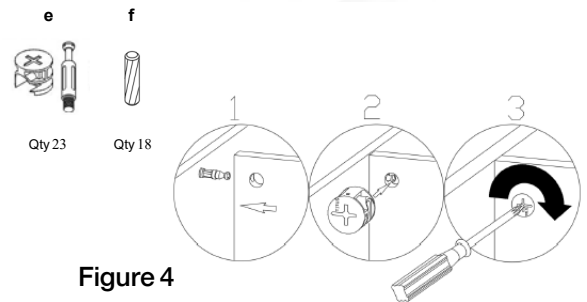

Figure 4
6. Install female cam locks (e) into designated holes, and then, lock them with a screwdriver. (Figure 4)